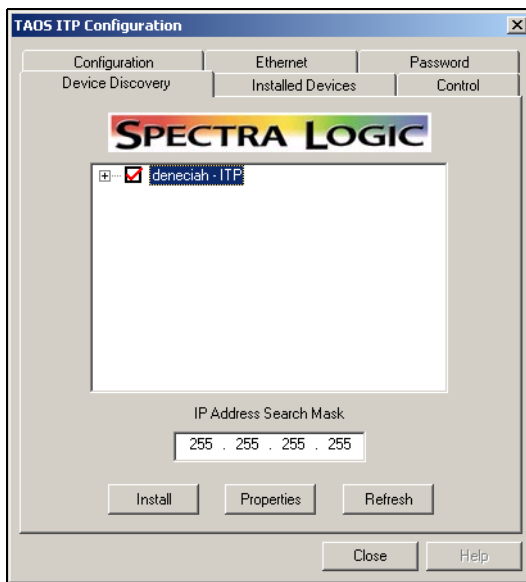

Figure 7-19 *Device Discovery on the TAOS ITP Configuration control panel, with the device selected.*
- Click on the square box next to the TAOS enabled device to check-mark each TAOS enabled device you want installed (Figure 7-19).